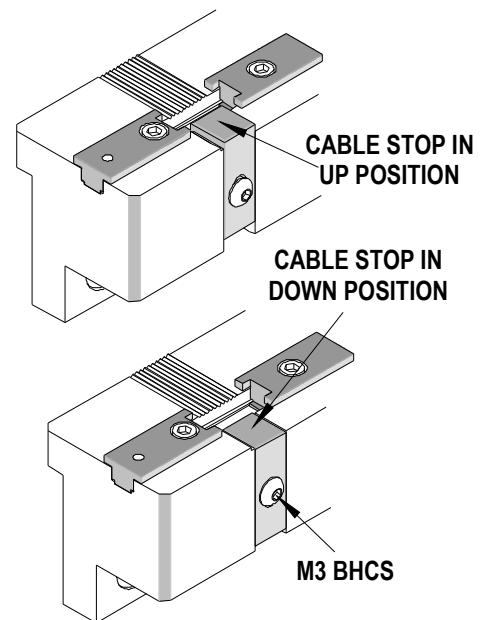

Figure 5
3. Retighten the screw. See Figure 5.